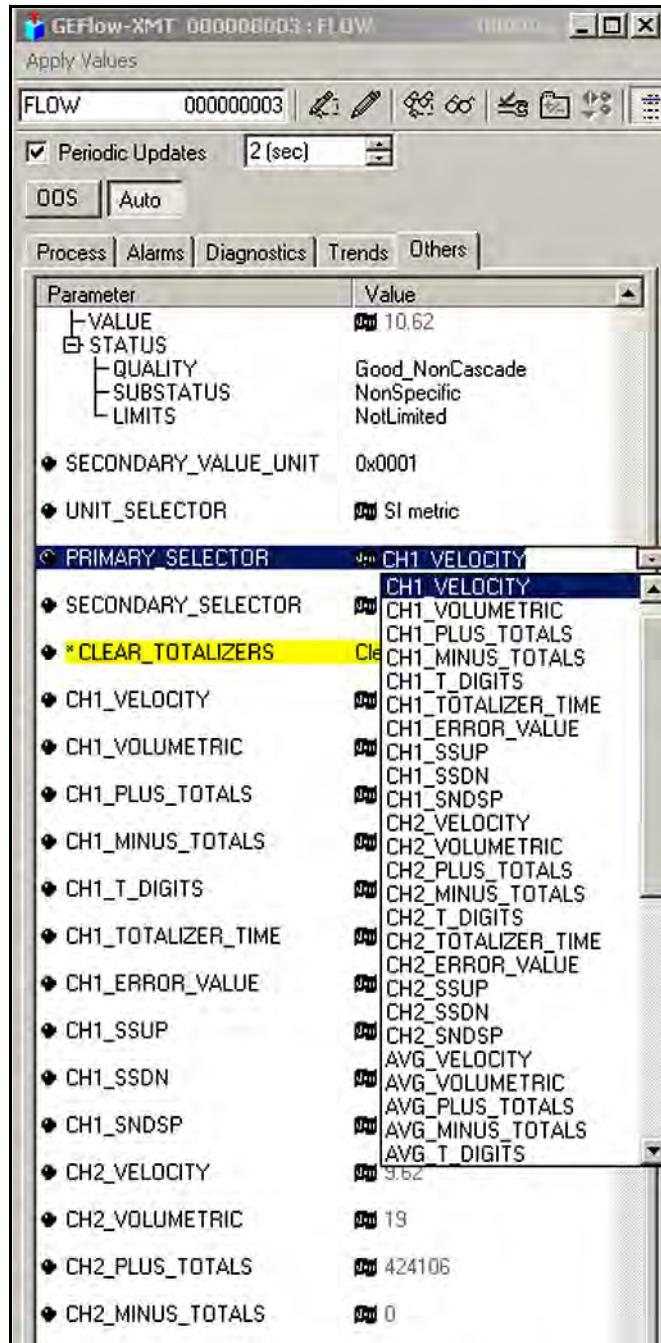

Figure 49: Primary Selector Drop Down List
2. Select the **Others** tab and open the drop down list for the PRIMARY\_SELECTOR through 6th\_SELECTOR (refer to Figure 49 on page 67).
3. Choose the unit from the list (see Figure 49 on page 67).